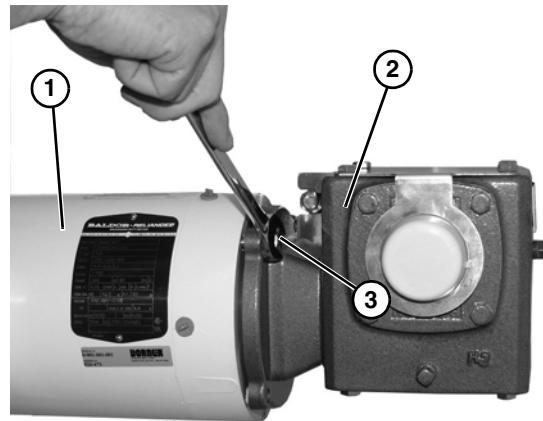

Figure 41
8. Secure motor (Figure 41, item 1) to gear reducer (Figure 41, item 2), with four bolts (Figure 41, item 3).
9. Tighten four bolts (Figure 41, item 3) to 65 in-lbs (7.3 N-m).